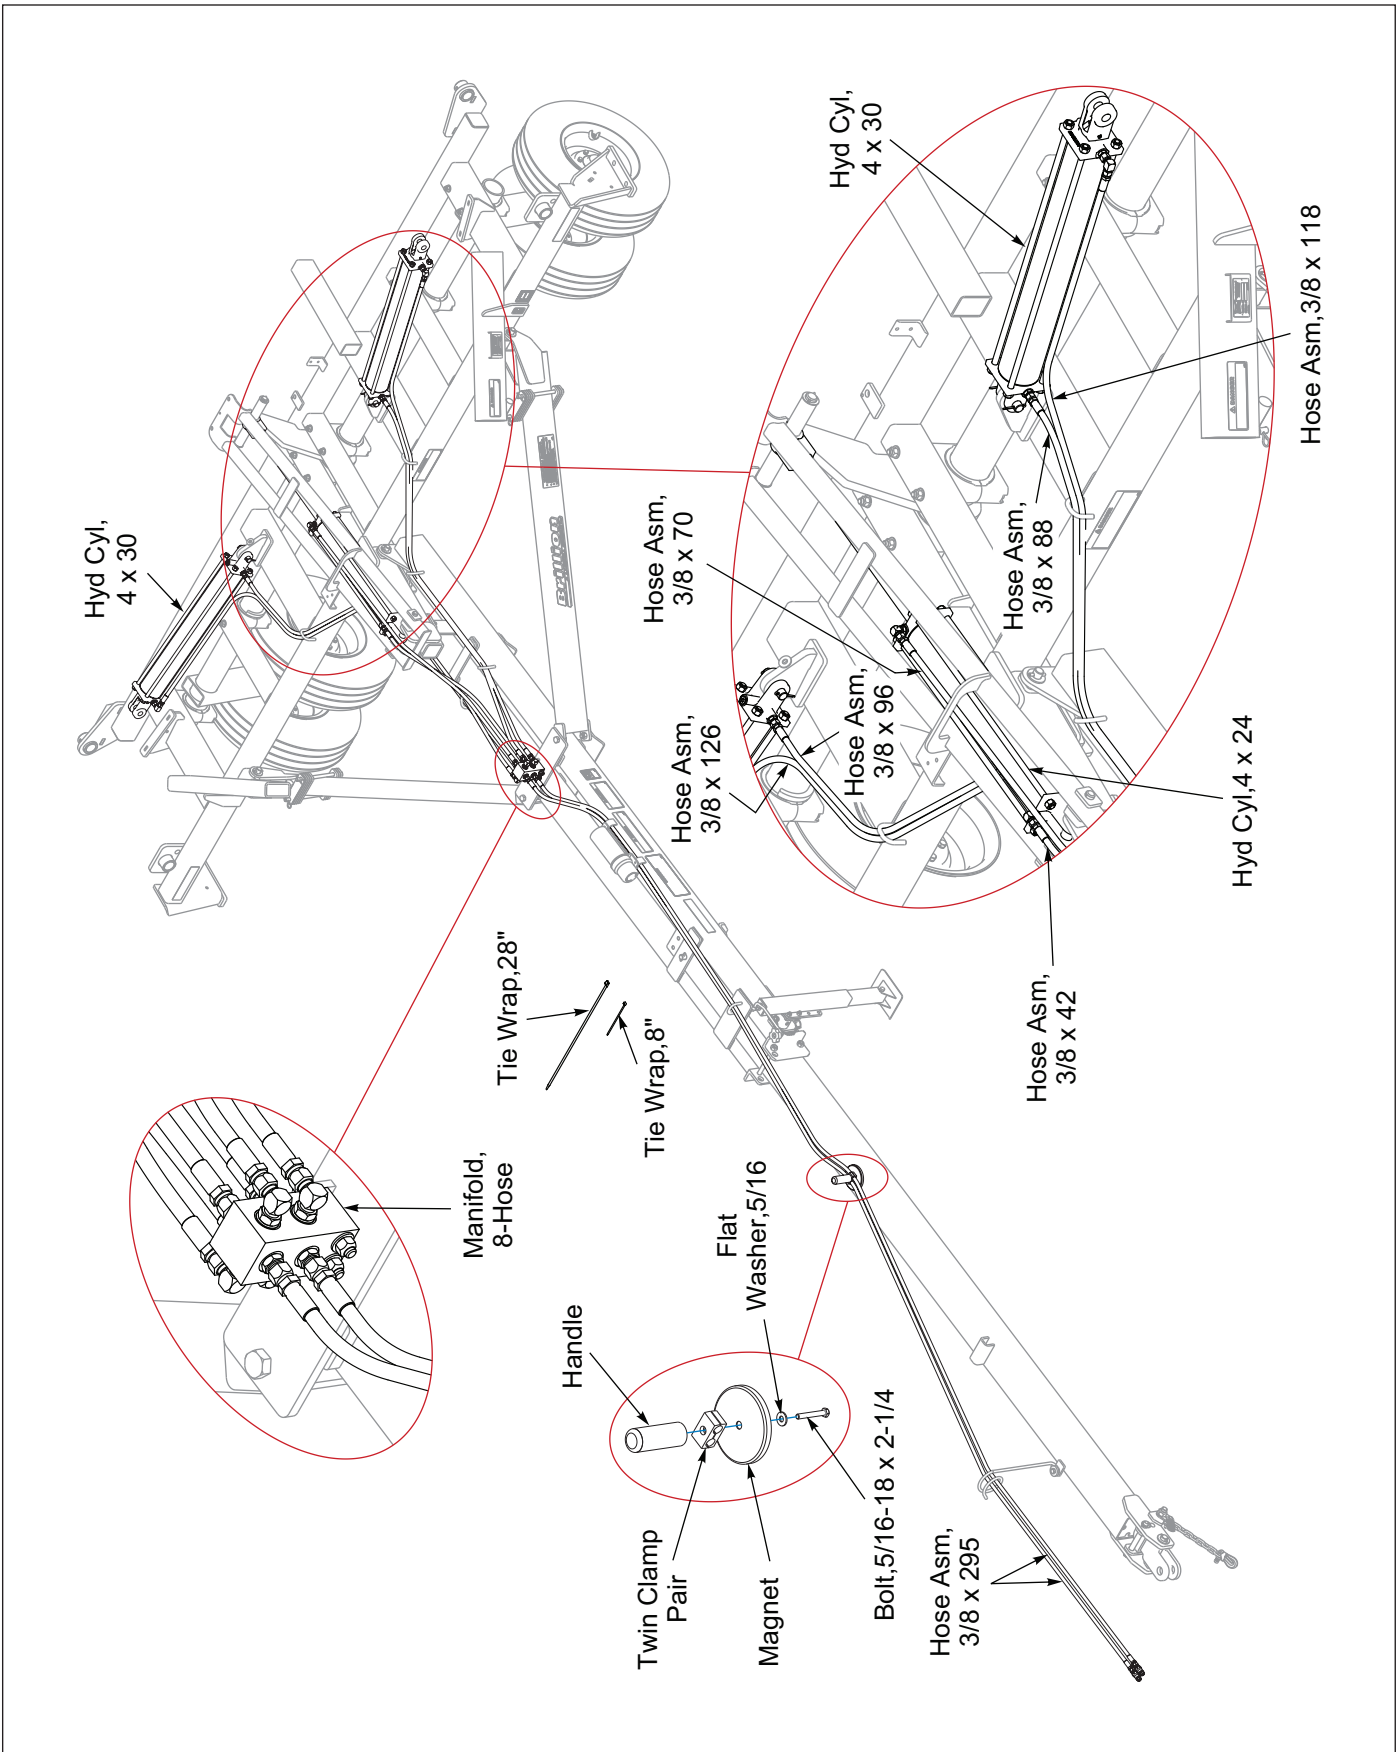

Figure 2-11: Hydraulic Layout
1. Attach the 8-Port Manifold to the front of the Manifold Bracket located on top of the drawbar strap with 1/2-13 x 3-3/4 Bolts, Flat Washers and Locknuts. Install the fittings into the Manifold with the elbow fittings pointing rearward. See Figures 2-11 and 2-12.
5. Attach hoses from the Lift Cylinder to the rear of the Manifold. See Figure 2-11.